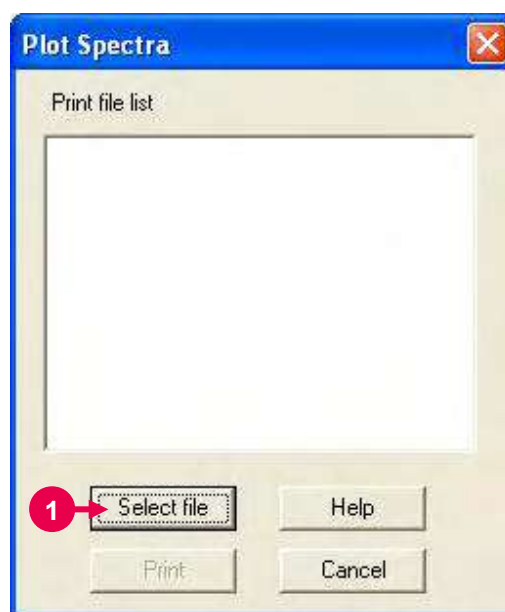

Fig. 8-23
- (1) Select the Plot Spectra command from the File menu. A window as in Fig. 8-23 will appear.
- (2) Click **Select file**. (Refer to ① in Fig. 8-23.)